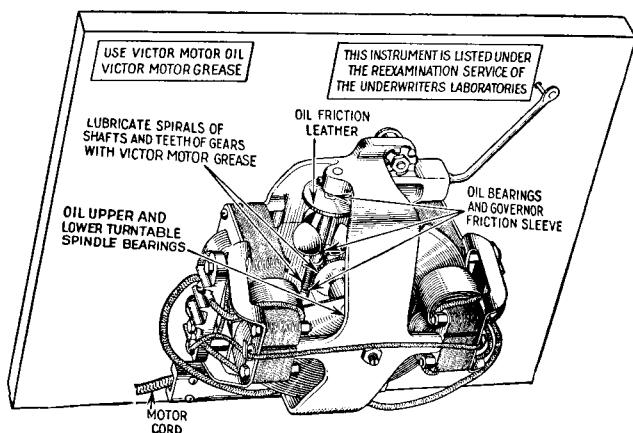

Fig. 4—Electric Motor Oiling Diagram
7. Lubricating Motor—The Electrola motor should be kept clean and should be lubricated at least once in six months. To permit ready inspection and lubrication of the motor, remove the turntable and the four screws at the corners of the Electrola motor board. Lift up the front edge of the motor board. The parts requiring lubrication are shown in the oiling diagram, Fig. 4. Before lubricating, wipe the motor with a clean cloth dampened with kerosene. The proper lubricants required for the motor can be secured from any dealer in Victor products, and only Victor lubricants are recommended. Samples of the proper lubricants are furnished with the instrument.